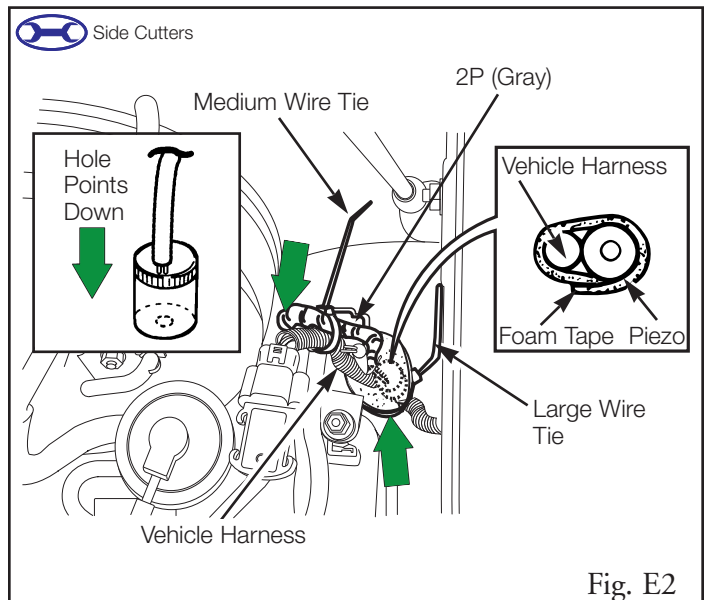

Fig. E2
2. Plug the piezo buzzer's gray 2P connector into the vehicle harness' gray 2P connector. (Fig. E2)
3. Secure the piezo buzzer to the vehicle's harness with one large strip of foam tape and one large wire tie, then secure its harness to the vehicle's harness with one medium wire tie. (Fig. E2)